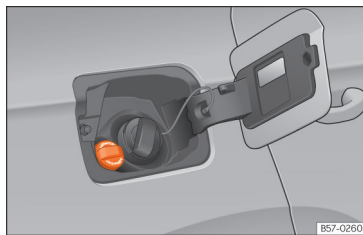

Fig. 185 AdBlue tank cap.
- Open the tank cover >>> Fig. 185.
- Turn the SCR tank cap anti-clockwise >>> Fig. 185.